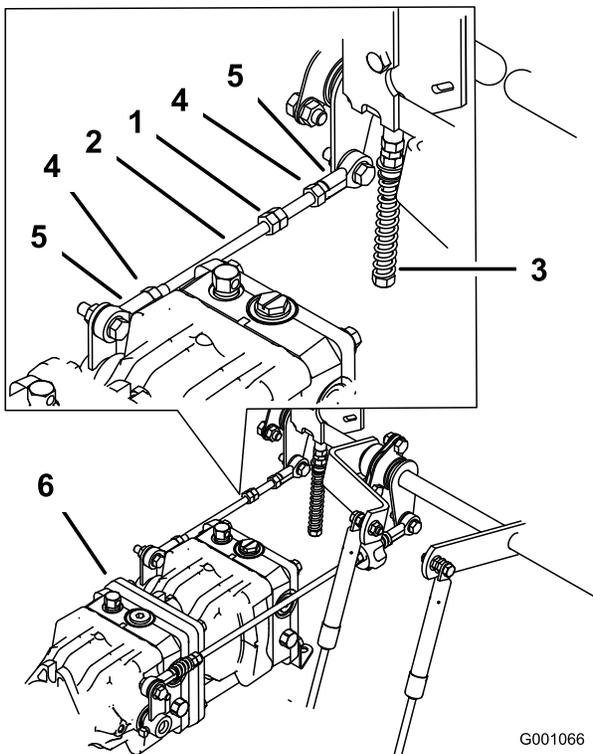

Figure 77
1. Loosen the locknuts at the ball joints on the pump control rod (Figure 77).
3. Adjust the pump rod length by rotating double nuts on rod, in the appropriate direction, until wheel is still or slightly creeps in reverse (Figure 77).
6. Tighten the locknuts at the ball joints (Figure 77).